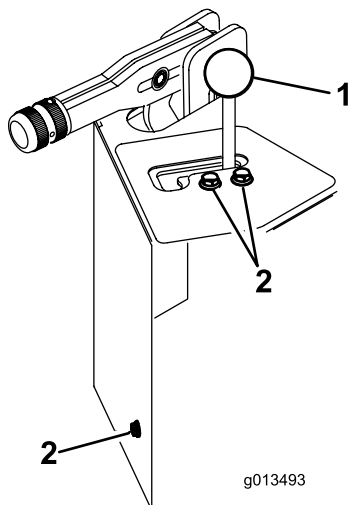

Figure 24
3. Remove the knob from the lift lever (Figure 24).
4. Remove the (3) mounting screws and remove the valve shroud (Figure 24).